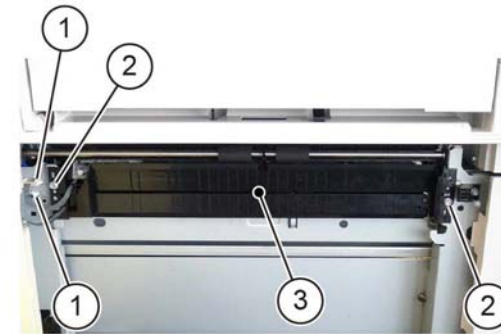

Figure 2 Tray 2 feeder assembly removal
5. Remove the tray 2 feeder assembly, Figure 2:
- a. Disconnect the connectors (1).
- b. Remove two screws (2).
- c. Remove the tray 2 feeder assembly (3).